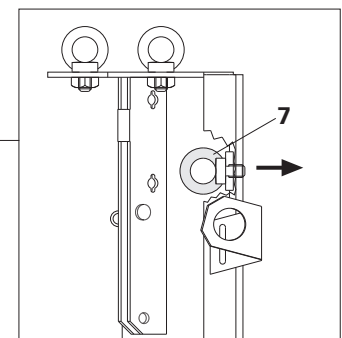

Fig. A5.01.3
3. Push apart the column halves with the Striking Bolt (7). (Fig. A5.01.3)